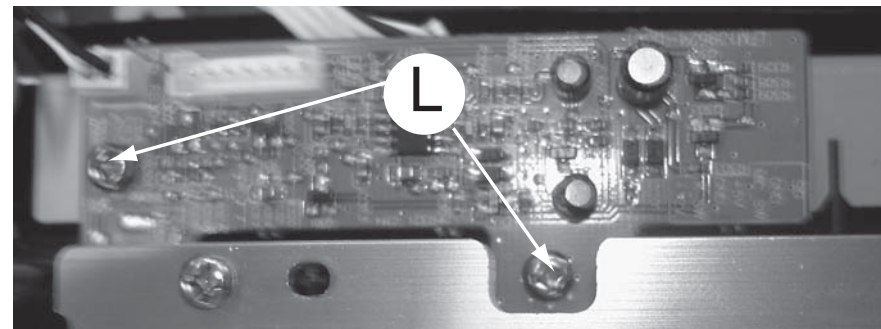

Figure 18
- 1) Loosen 2 screws "L" on the top of KARAOKE board as shown in figure 18.